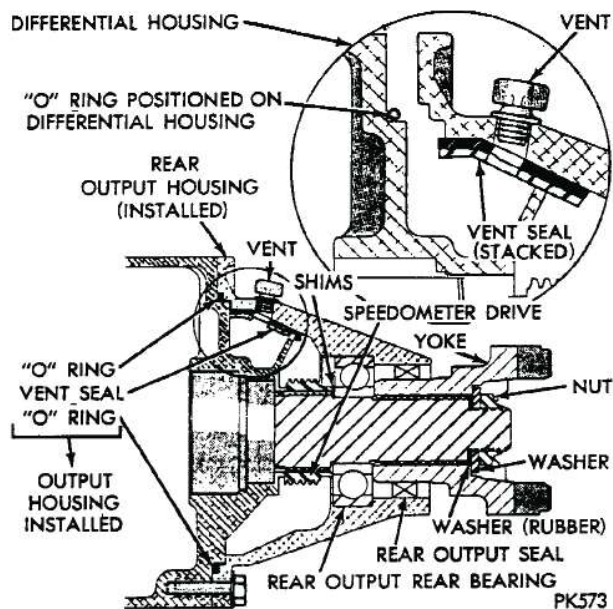
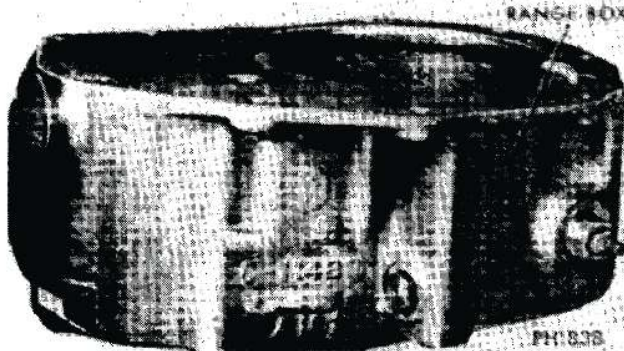
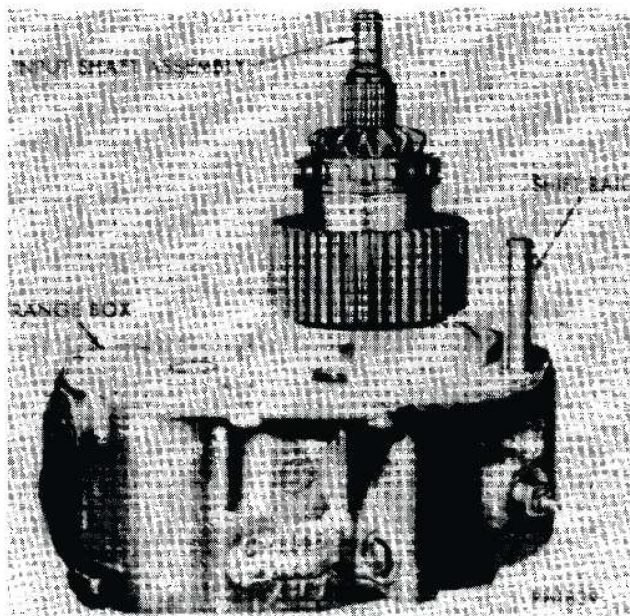

Fig. 23—Rear Output Housing Assembly
Fig. 24—Range Box Positioned for Assembly
Fig. 25—Shift Rail in Installed Position
(4) Install two new seal(s) on inside surface of output housing, centering the holes at vent opening (Fig. 23) (Stack the two seals).
(5) Position sealing "O" Ring on differential housing as shown (Fig. 23).
(1) Place range box on blocks with front (input) side down (Fig. 23).
(2) Position gasket on range box (Range Selector Housing).
(3) Install lockout clutch and drive sprocket assembly on input shaft assembly. A 2 inch band type clamp or other similar device may be used to retain loose bearings.
(4) Install input shaft, lockout clutch and drive sprocket assembly into range box, aligning tab on bearing retainer with notch in gasket.
(5) Connect lockout clutch shift rail to the connector link and position rail in housing bore (Fig. 24). Rotate shifter shaft while lowering shift rail into housing, to prevent the link and rail from being disconnected.
(6) Install drive chain in chain housing, positioning the chain around outer wall of housing.
(7) Install chain housing on range box (Fig. 25), engaging shift rail channel of housing to shift rail. Position chain on input drive sprocket.
(8) Install front output sprocket in case, engaging drive chain to sprocket. Rotate clutch drive gear to aid in positioning chain on drive sprocket.
(9) Install shift fork on clutch assembly and shift rail, then push clutch assembly fully into drive sprocket. Install roll pin retaining shift fork to shift rail.
(10) Install outer retainer ring on front output shaft bearing and install bearing into housing bore.
(11) Install front output shaft bearing retainer, gasket and retaining bolts.
(12) Install front output shaft seal, yoke, dust shield, rubber seal, washer and retaining nut. Tap dust shield back into place after installing bolts in flange.
(13) Install front output shaft rear bearing retainer, gasket and retaining bolts. If rear bearing was removed, position new bearing to outside face of cover and press into cover until flush with opening.
(14) Install differential carrier assembly on input shaft. (Carrier bolt head toward rear of shaft.)
(15) Install rear output housing assembly, gasket and retaining bolts (Load bearings in pinion shaft).
(16) With yoke nut at least .06 loose, push or tap end of rear output shaft into unit. This will put differential into close mesh for next check. Check rear output shaft end play as follows: